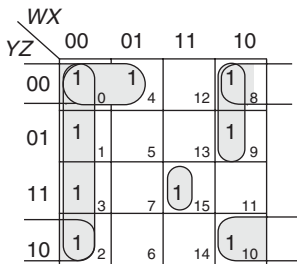

Fig. 6.79 Solution for Problem 39.
39. $f(W, X, Y, Z) = \bar{W}\bar{X} + \bar{X}\bar{Z} + \bar{W}YZ + W\bar{X}\bar{Y} + WXYZ$ (See Fig. 6.79)